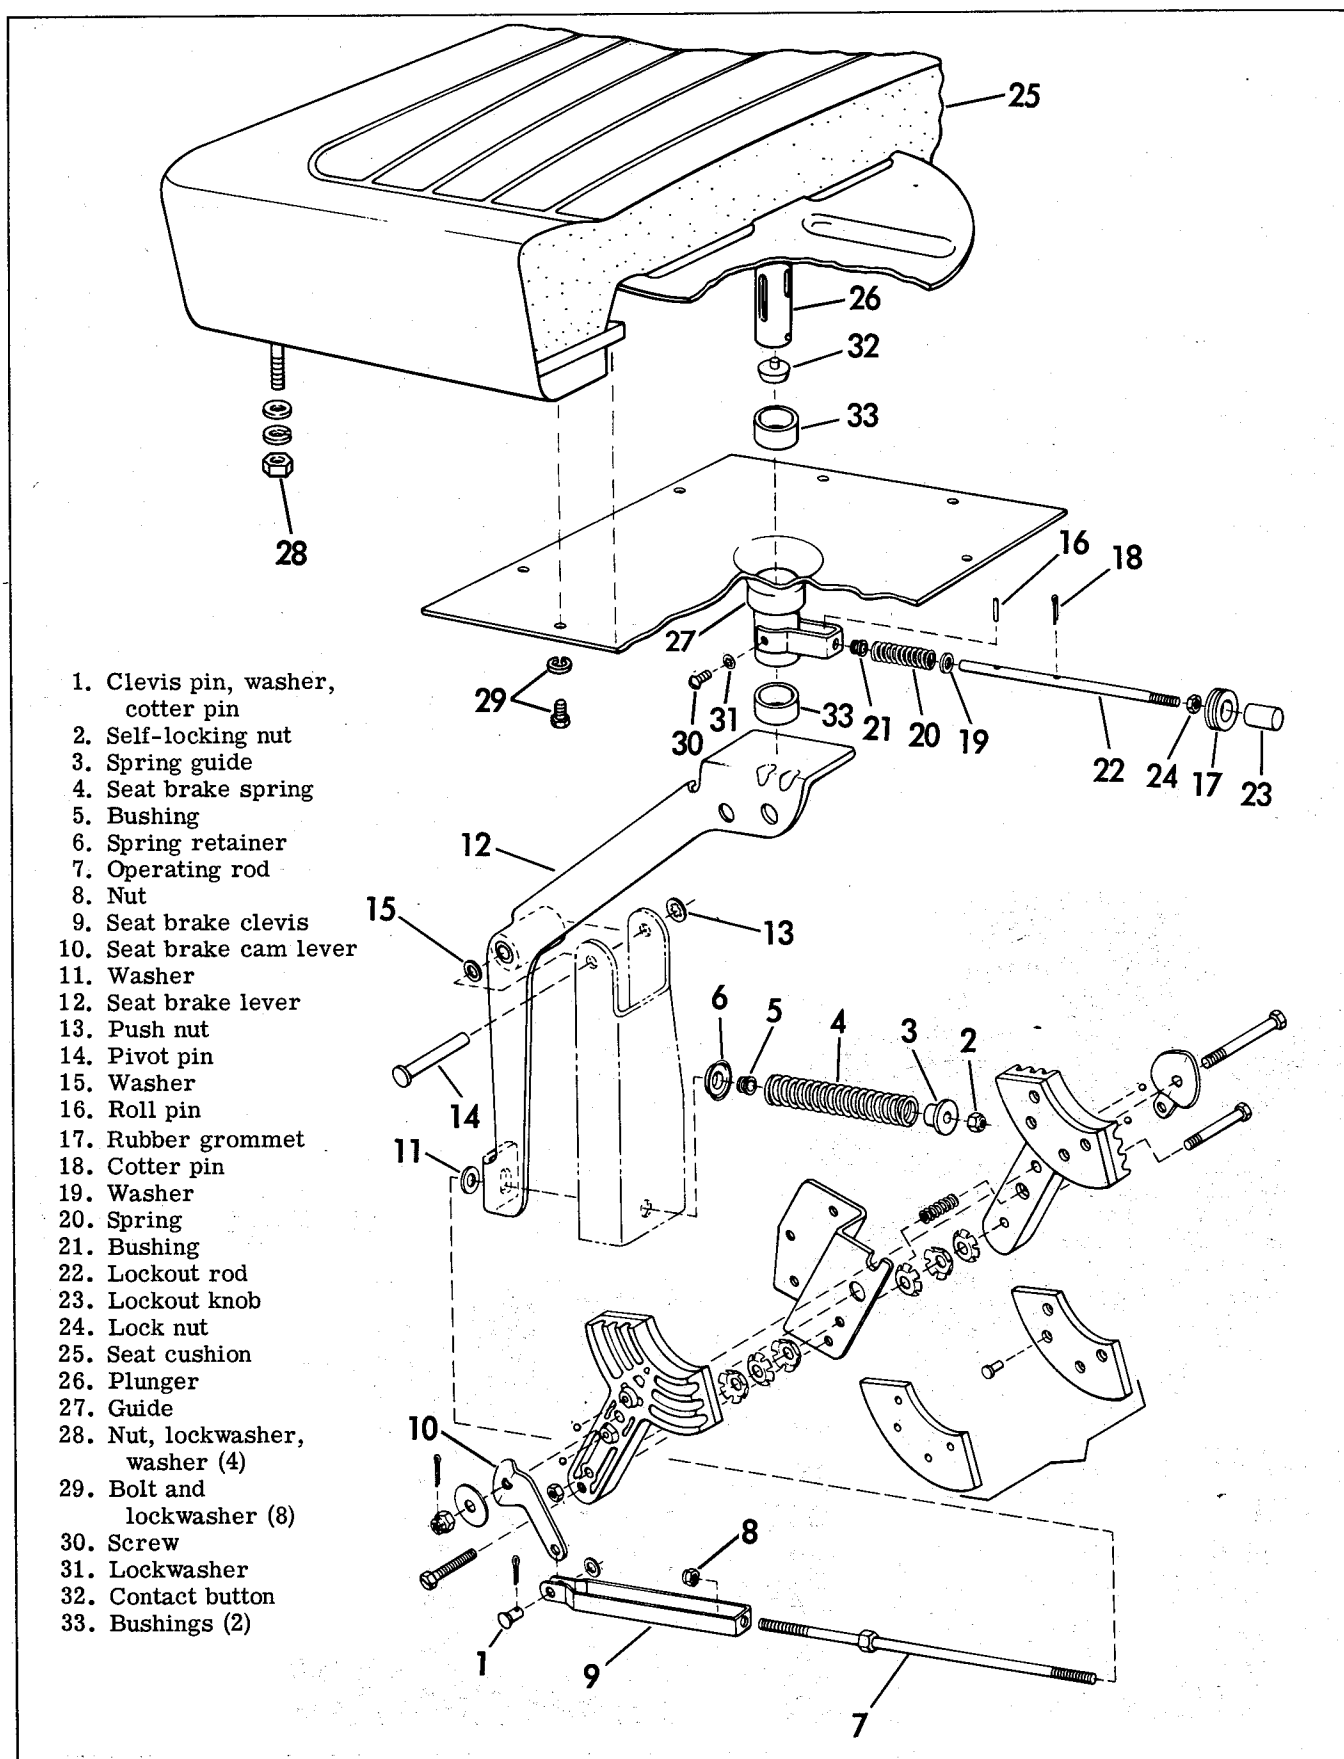
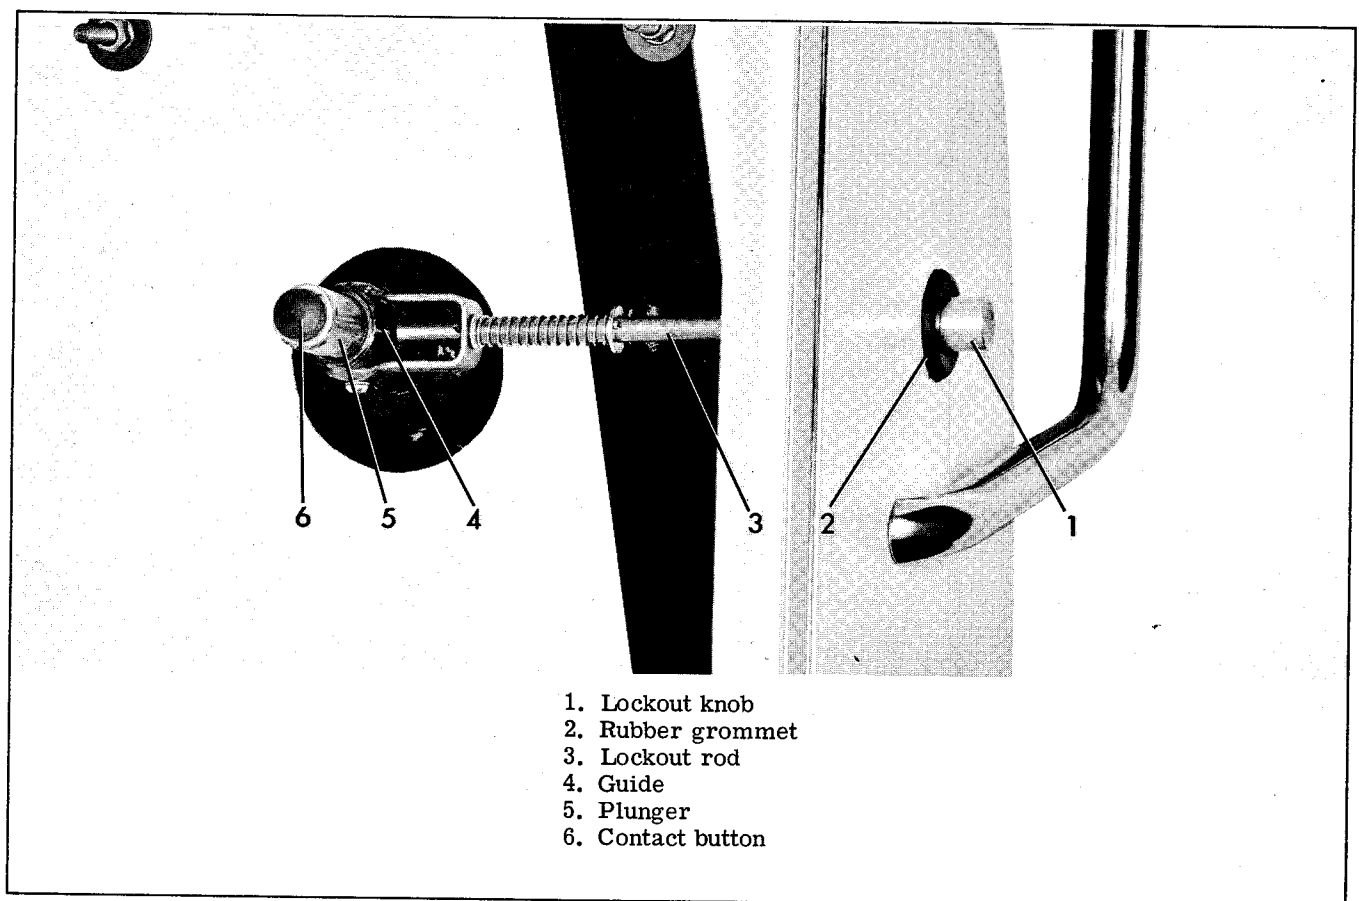
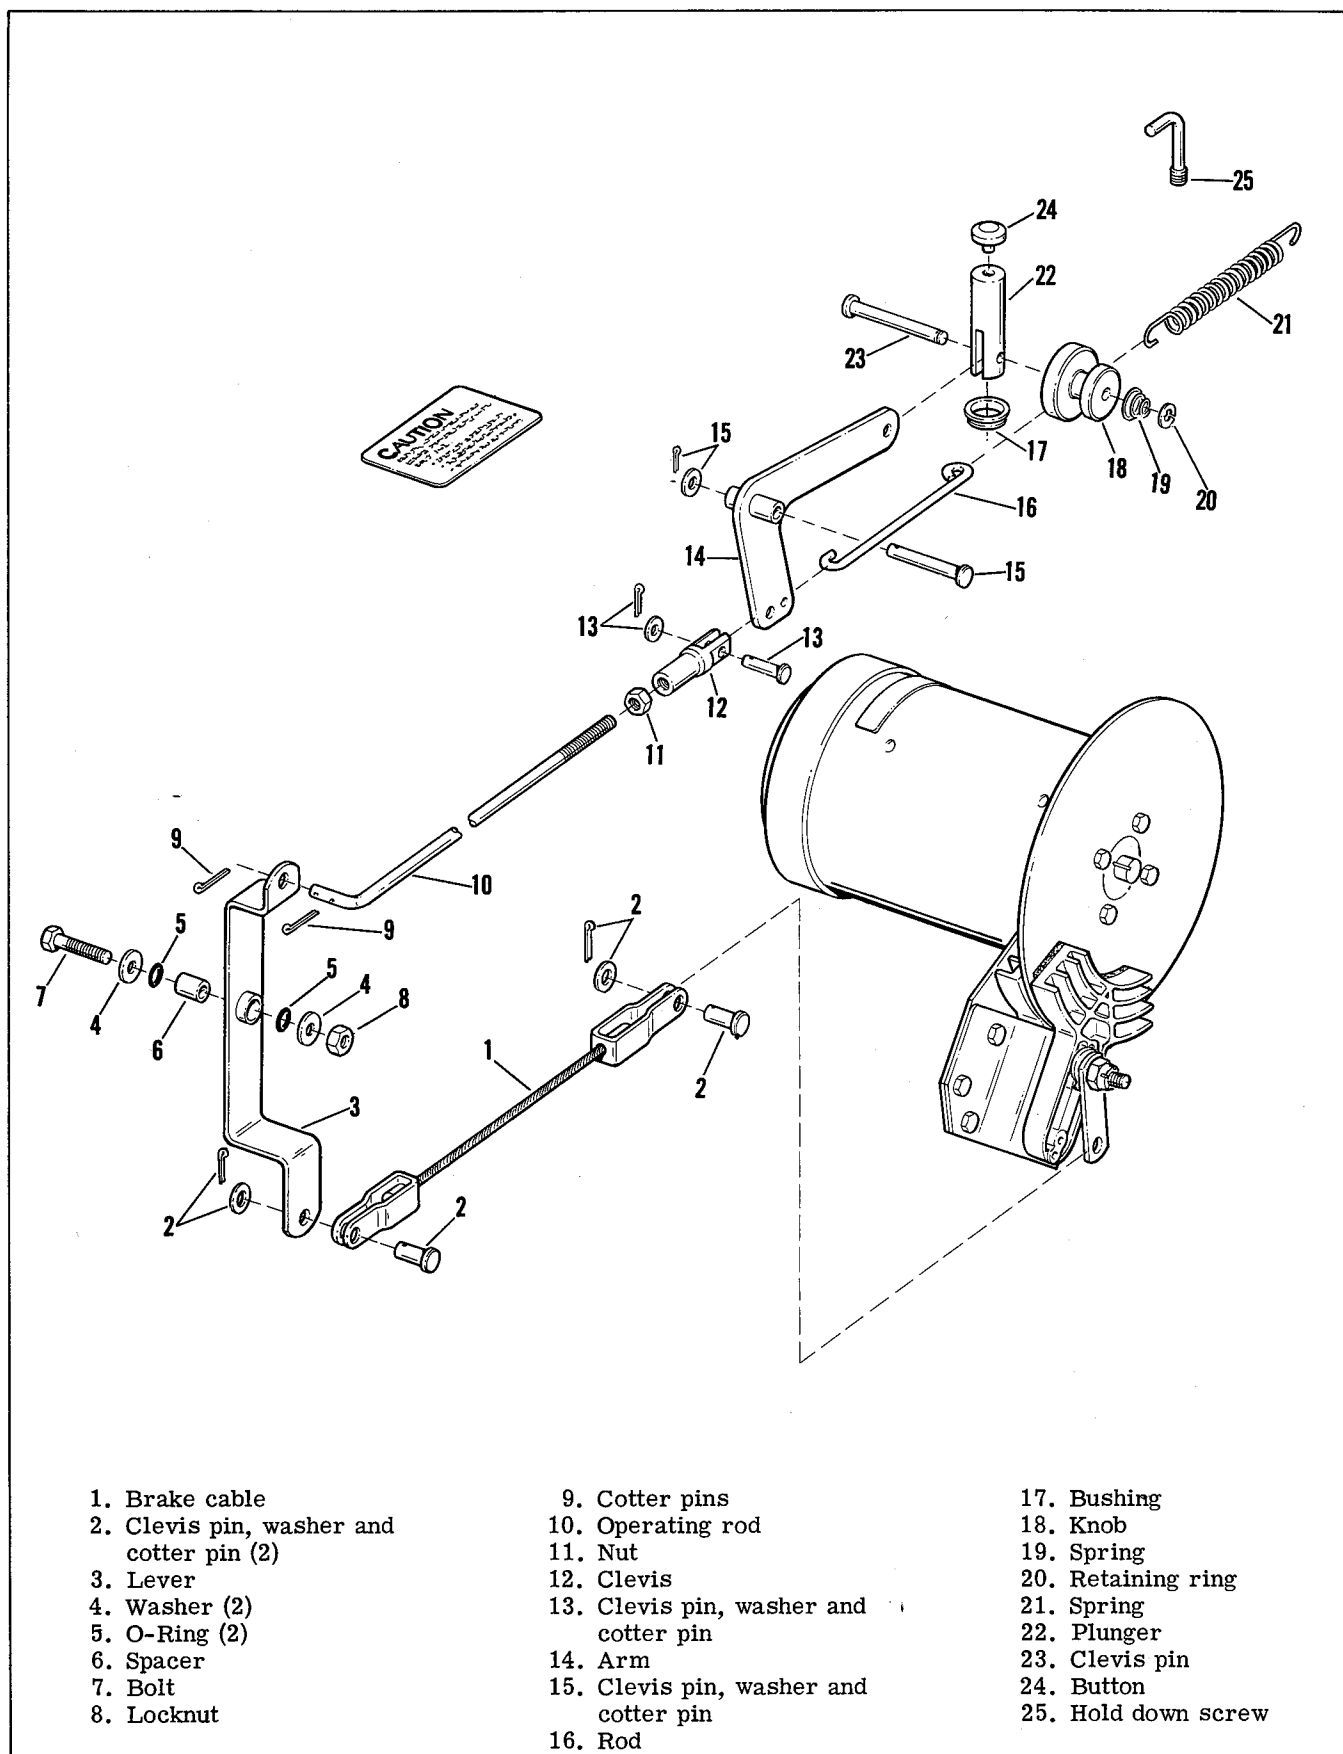

Figure 2-31A. Automatic Seat Brake (1976)
Figure 2-31B. Automatic Seat Brake Lockout Mechanism (1976)
Figure 2-31C. Automatic Seat Brake (1977 and Later)
On models with an automatic seat brake, the seat brake clevis pin (6, Figure 2-31A) on 1976 and earlier models or (13, Figure 2-31C) for 1977 and later models must be removed before adjusting disc brake. Always adjust seat brake after foot disc brake has been adjusted. See ADJUSTING AUTOMATIC SEAT BRAKE.
A lockout mechanism (Figure 2-31B) is provided to hold the brake in the released position for moving or towing the car. To lockout brake, apply downward pressure to seat so that button on left side of body next to seat can be depressed and rod (22, Figure 2-31A) can enter slotted hole in plunger (26, Figure 2-31A). Hold button in this position and allow seat to come up against lockout rod to hold the brake in disengaged position. To release, apply downward pressure to seat. Spring pressure on lockout rod will release lockout rod from plunger hole and release lockout mechanism.
DISASSEMBLING AND ASSEMBLING AUTOMATIC SEAT BRAKE (Fig. 2-31A)
AUTOMATIC SEAT BRAKE - 1977 AND LATER (OPTIONAL EQUIPMENT) (Fig. 2-31C)
The automatic seat brake option provides an additional control mechanism which applies the disc brake independently of the foot brake. See Figure 2-31C. Driver's weight on seat releases the brake allowing car to be driven. Driver's weight removed from the seat automatically applies parking brake through a lever and spring arrangement.
The lockout mechanism is provided to hold the brake in the released position for moving or towing the car. To lockout brake, turn seat hold down screw (located behind seat) parallel with slot in seat, and raise seat. Push down on plunger (22, Figure 2-31C), then pull out knob (18) until large diameter portion is centered in cut-out of chassis frame. Release plunger (22) to lock knob (18) in this position which locks out seat brake operation. Lower seat and lock with hold down screw for towing. To release, push lockout knob (18) in. Spring tension will automatically apply brake until downward pressure is again applied to seat.
ADJUSTING AUTOMATIC SEAT BRAKE (Figure 2-31C)
DISASSEMBLING AND ASSEMBLING AUTOMATIC SEAT BRAKE (Figure 2-31C)